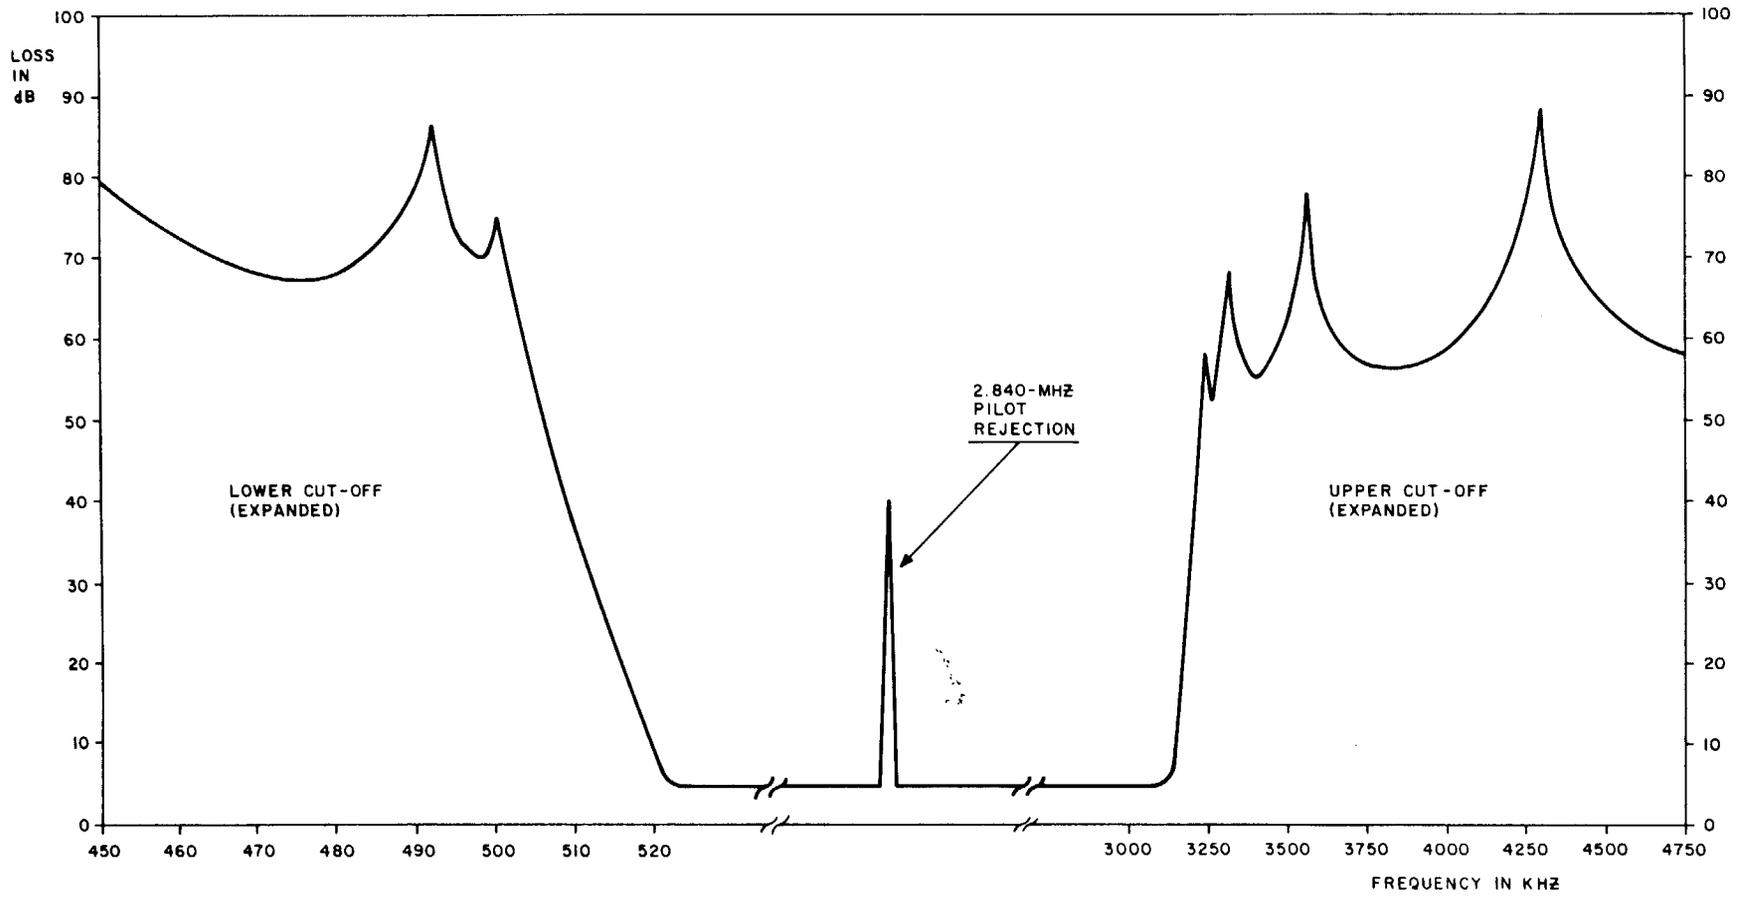

Fig. 4—1122B Filter Characteristics
3.01 The passive mastergroup connector circuit (Fig. 3) contains an adjustable cable equalizer, an adjustable flat level attenuator, a bandpass filter (1122B), and a splitting hybrid. A signal enters the circuit via the IN jack and passes into the cable equalizer. The equalizer is adjustable in 50-foot increments for cable lengths between 50 and 600 feet. The signal leaves the equalizer and enters the level attenuator which provides from 1 through 18 dB of flat-level-attenuation adjustment by means of the LEVEL ADJ control. The signal then enters the 1122B filter which suppresses the 2.840-MHz mastergroup pilot by at least 40 dB within 45 Hz of the pilot. The filter also suppresses any signals above or below the basic mastergroup band and passes only the basic mastergroup signal (0.564 through 3.084 MHz excluding the 2.840-MHz pilot) with a nominal flat loss of 5.2 dB (Fig. 4). Finally, the signal goes to the hybrid where it is split into two equal-level sig-